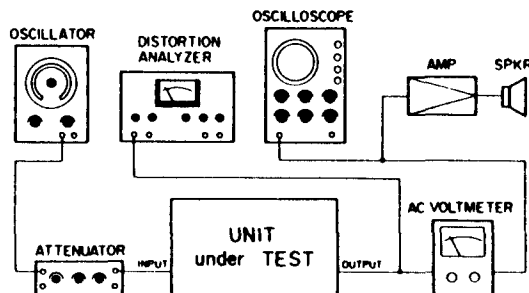

FIG. 31. DISTORTION TEST SET-UP
1. Connect test equipment as shown in Fig. 31.